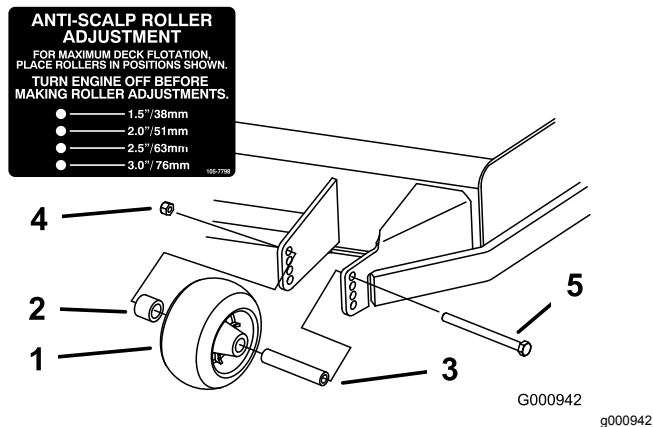
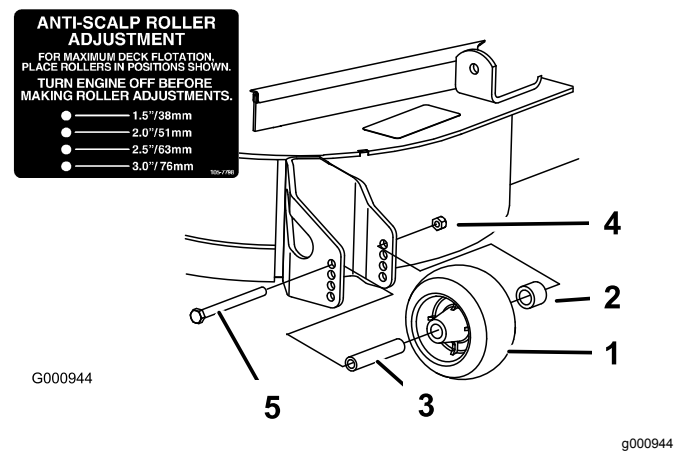
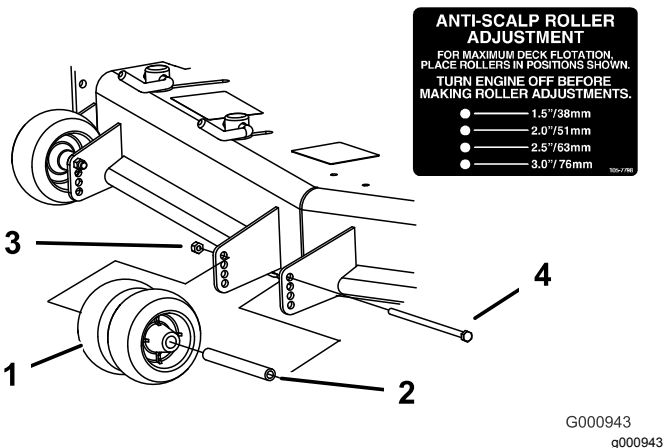

Figure 26
Figure 28
Figure 27
3. Adjust the anti-scalp rollers as shown in Figure 26, Figure 27, and Figure 28.